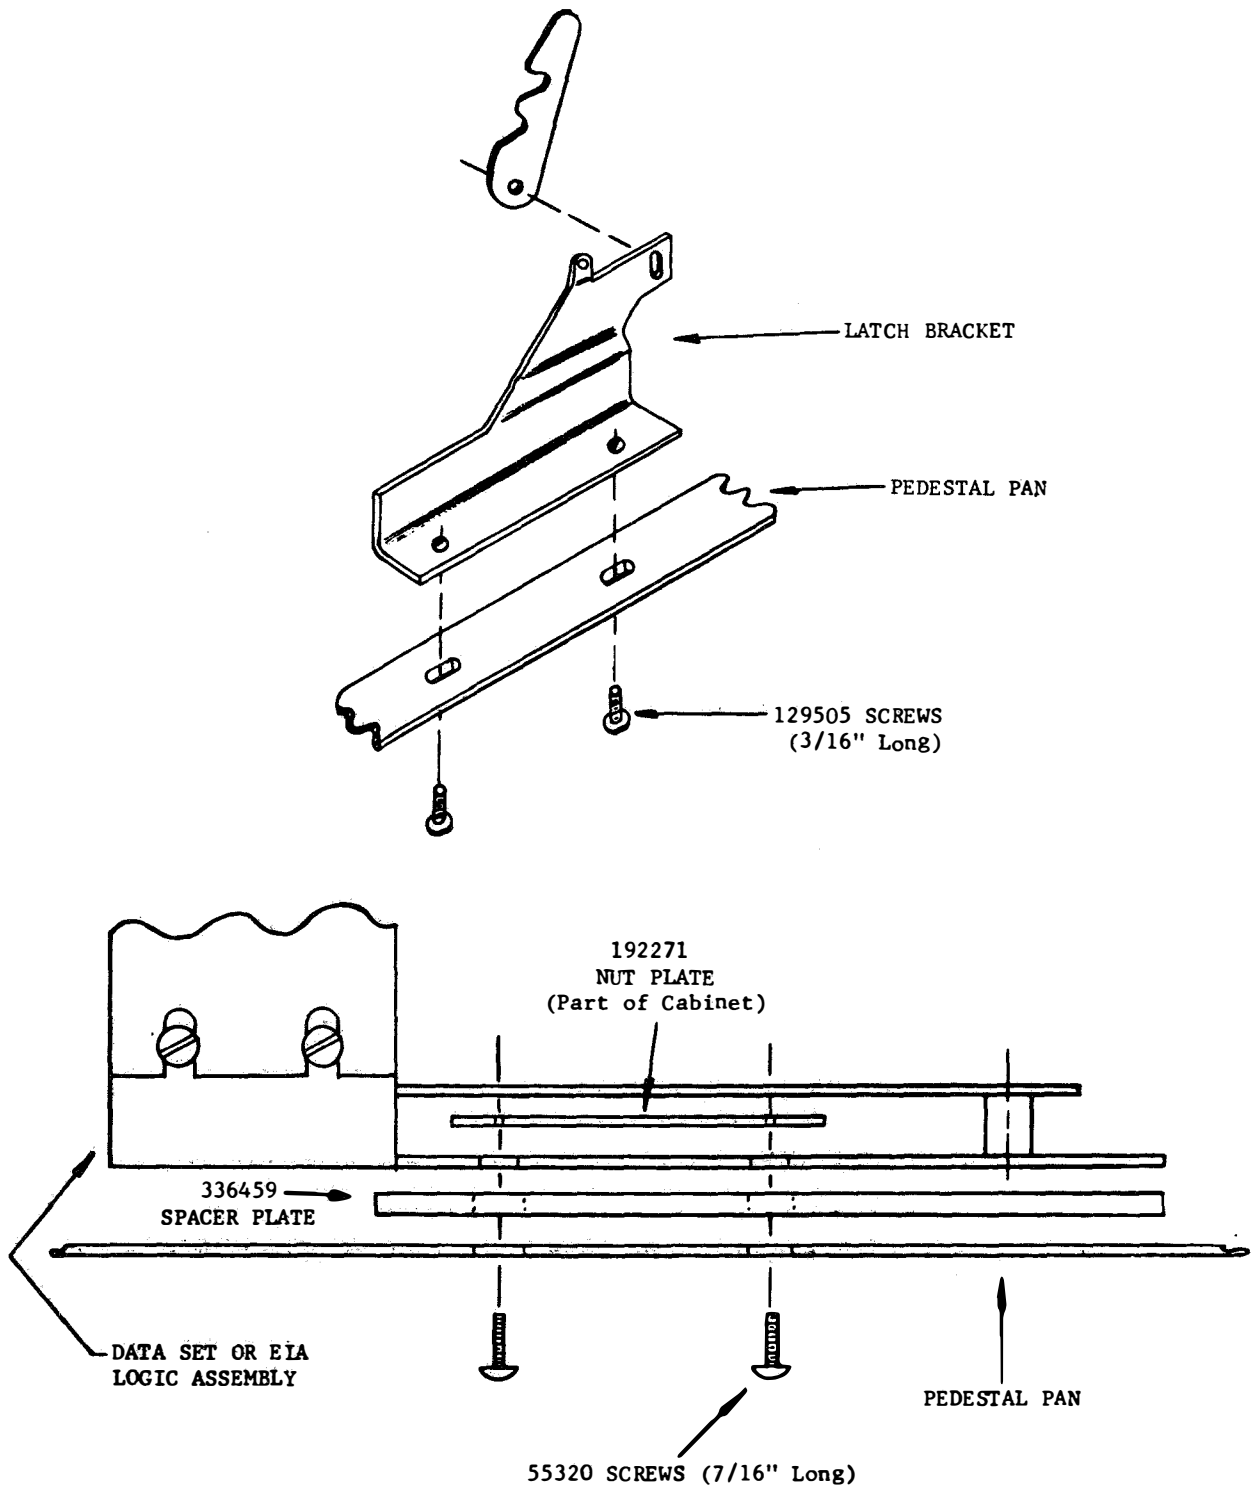

Figure 2
- 2.01 Remove the two 192274 pan head screws which secure the cover latch. Mount the latch with the shorter 129505 screws. See Figure 2.
- ~~2.06 Install the set logic assembly or 109C or F data set illustrated in Figure 2 discarding the 192270 bracket.~~